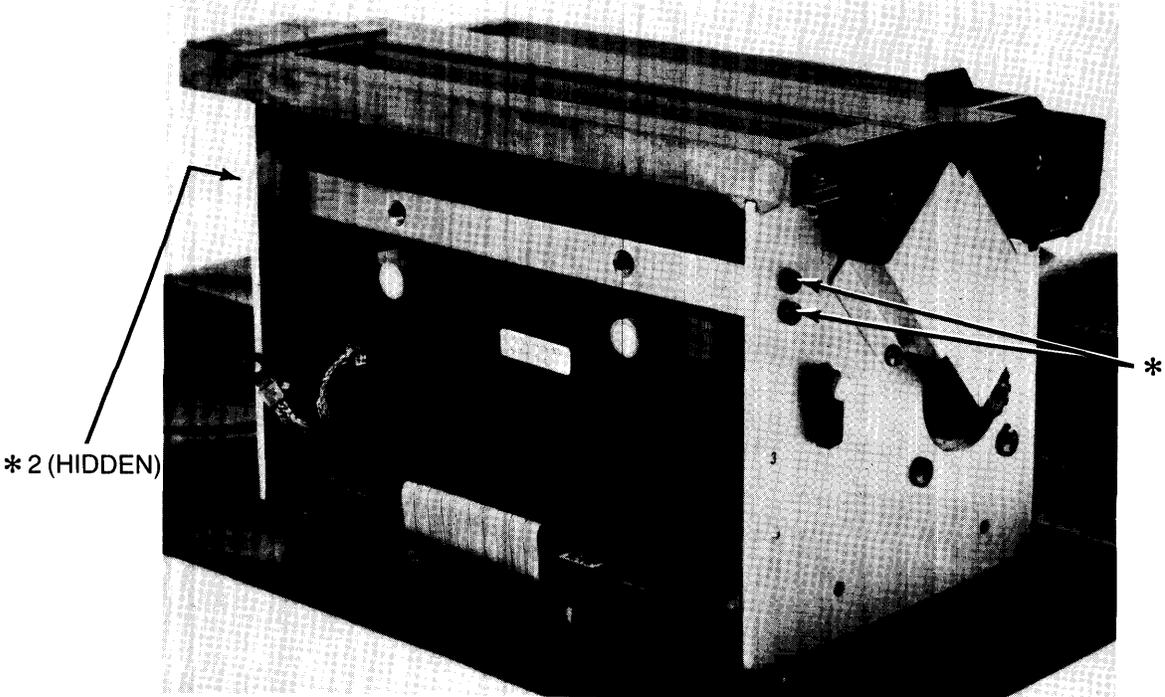
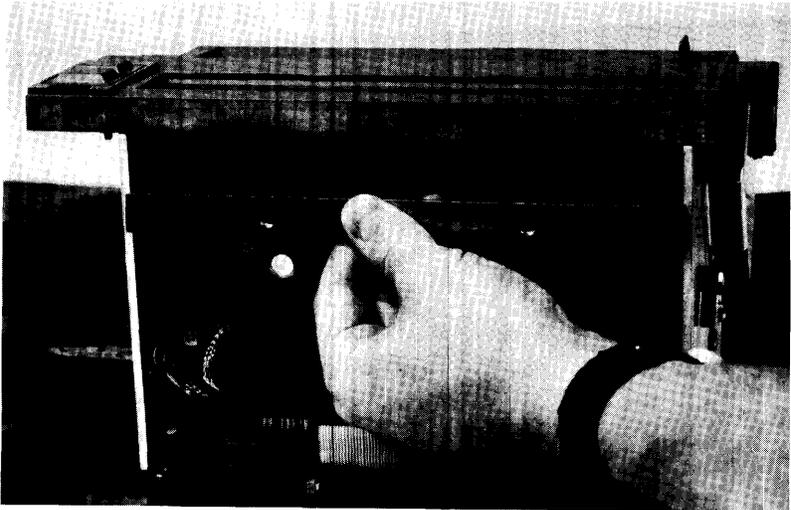

Figure 4-38. Releasing Head Load Bar
Figure 4-39. Removing Head Load Bar
- 6. Remove four #2 Pozidriv screws (two on each side of printer) that attach head load bar to printer (Figure 4-38) and remove head load bar (Figure 4-39).